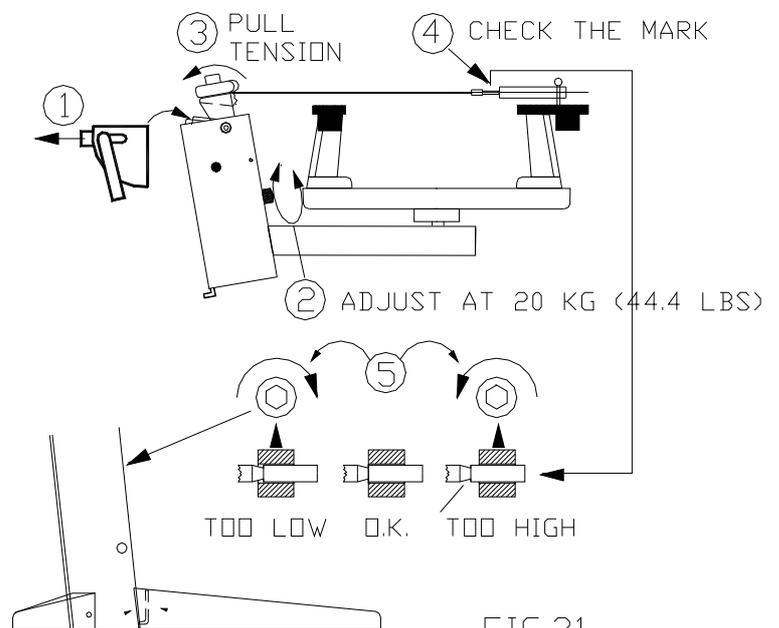

FIG.21
- * Tension the string of the calibrator as shown in fig.. 21..
- * Figure 21 shows the mark when the tension is too high, o.k. or too low.